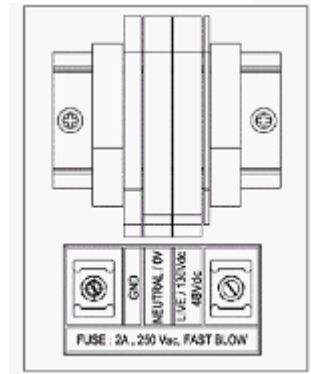

Fig. 8: Universal Power Input Terminal Block
- 1.7.1** The Positron TeleLite OEI assemblies can be powered from either -48Vdc, 120Vac or 130Vdc, depending on site conditions. Feed the incoming power to the fused power input terminal block mounted on the assembly backboard. See Figure 8.